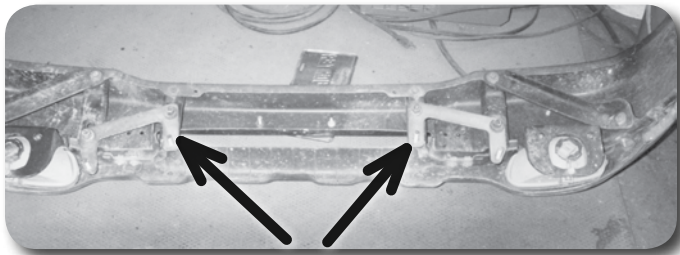

Figure 13
38. Install the front bumper relocation brackets on the front bumper with the studs facing out and fasten with stock nuts **Figure 13**. Do not tighten at this time.